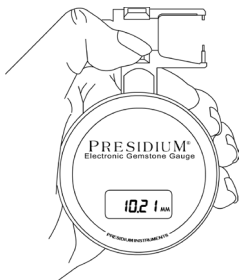

Fig. 2.1
- The Presidium Electronic Gem Gauge should be held in the palm of either hand. Control the Slider with the thumb (**Fig 2.1**).